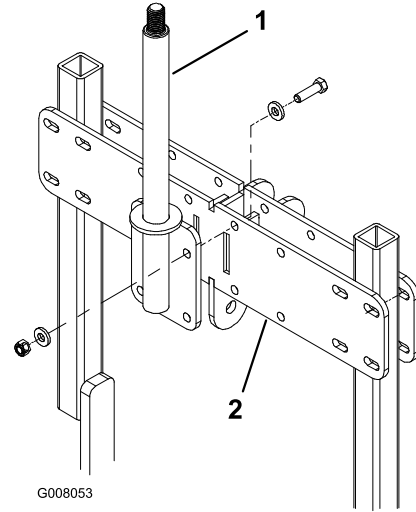

Figure 10
- Mount the pin assembly to the back of the hitch cross with (4) 1/2 x 1-3/4 inch screws, (8) washers and (4) locknuts (Figure 10). Use the center mounting position for the ProCore 880 and ProCore 864 aerators and the offset position for the 660 aerator as shown in Figure 10.